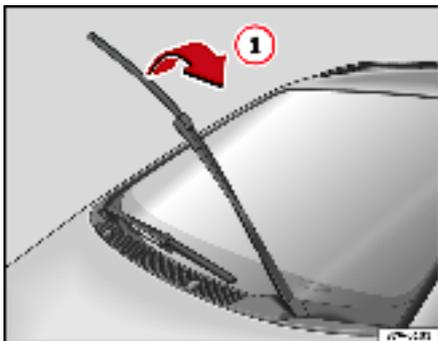
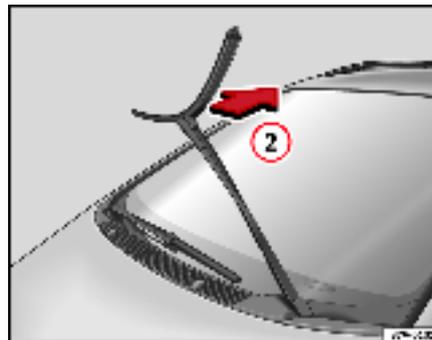

Fig. 144 Windscreen wipers raised
Fig. 145 Removing front wipers
- Turn the wiper blade as shown by arrow ⇒ fig. 144 ① as far as it will go and then pull it off as shown by arrow ⇒ fig. 145 ②.
- Push a new wiper blade **of the same length and version** onto the wiper arm and turn the wiper blade to the stop against the direction shown by arrow ①.